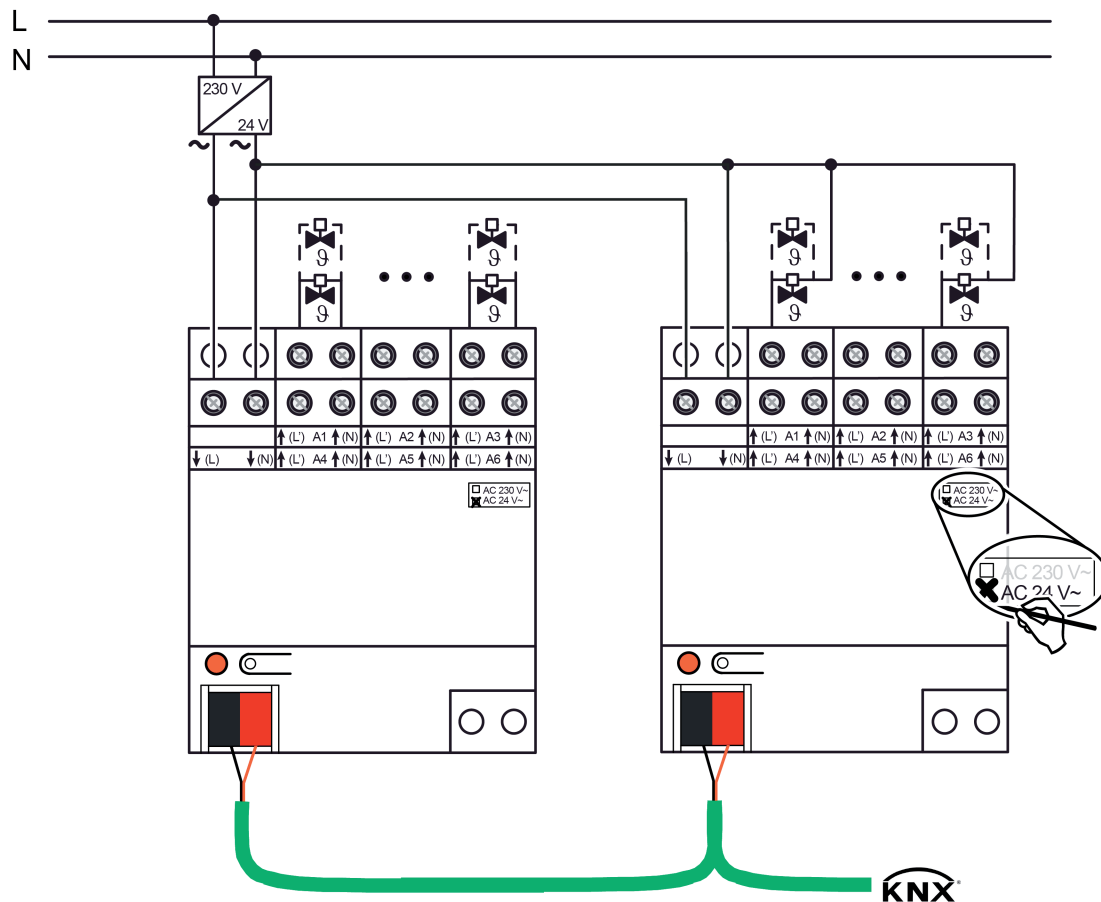

Figure 3: Connection for actuators AC 24 V
- Connect the AC 24 V valve drives according to the connection diagram (Figure 3). It is possible to connect the actuators individually and directly with the terminals of the outputs of the heating actuator (left-hand connection example) or, alternatively, using a shared conductor (right-hand connection example).
- Connect the supply for the actuators (AC 24 V) to the terminals ↓(L) and ↓(N) (1). In so doing, use a low voltage AC 24 V from a suitable power supply (transformer, mains power supply).